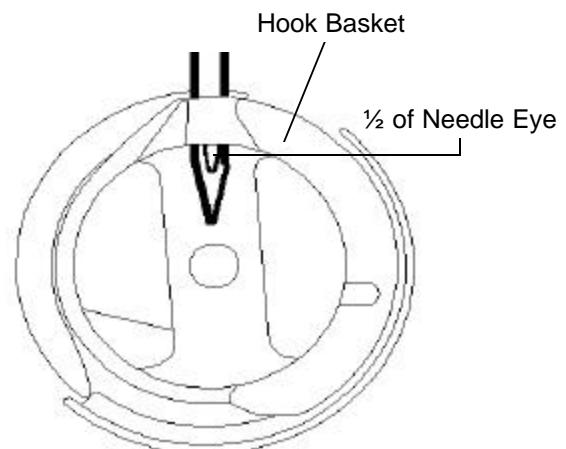

Figure 1
5. Before making any adjustments, see if lower half of needle eye is visible inside hook basket (what the bobbin case snaps into). See figure 1.